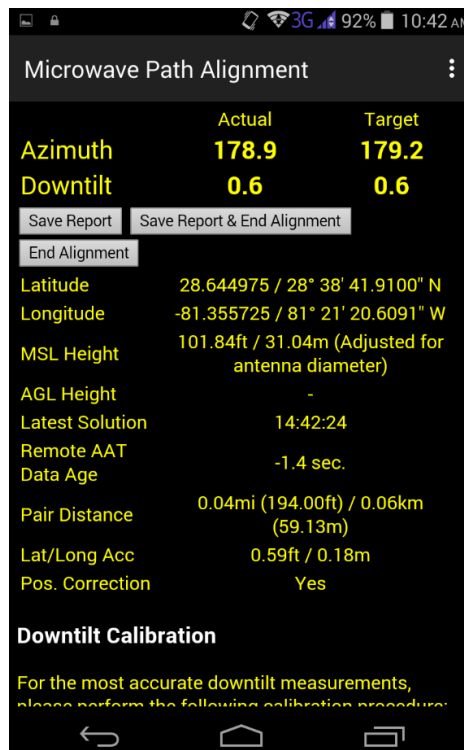

Figure 16
- 13) Once both MWxxs have successfully logged in and are on the measuring page, target data will be populated for azimuth and downtilt for the link. See Figure 16